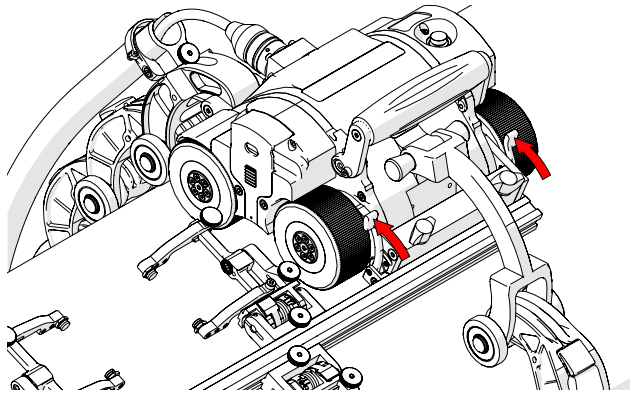

Fig. 201 - Lock swivel mount in place
15. When the swivel mount is positioned appropriately, Lock the swivel mount levers (Fig. 201).